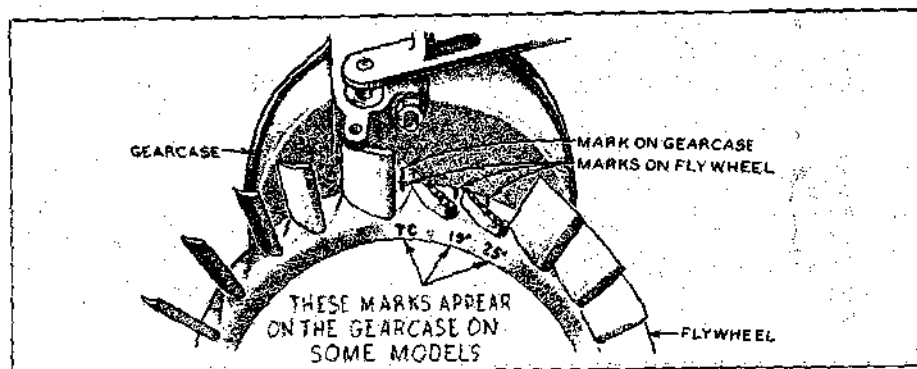

FIG. 40-IGNITION TIMING MARKS
2. Crank the engine over slowly by hand in the direction of crankshaft rotation until the "TC" mark on the flywheel and the mark on the gear cover are exactly in line. See Figure 40.